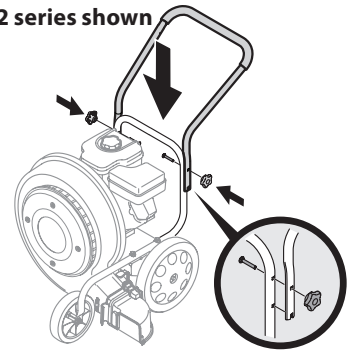

Figure 2
2. Place the upper handle over the lower handle, aligning the upper holes/metal tabs in the upper handle with the upper holes/lower holes in the lower handle. Secure the upper handle to the lower handle with the carriage screws (a) and star knobs (b). See Figure 2.